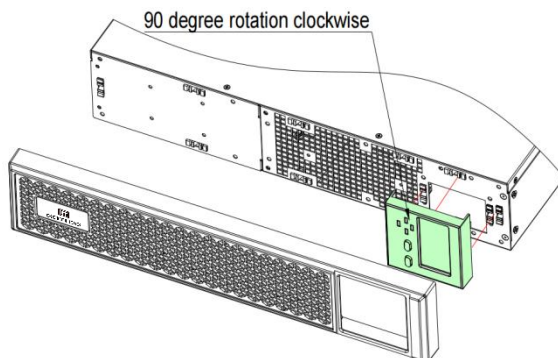

Fig.5-3 Rotating the operation and display panel
2. Pull the operation and display panel gently, rotate it 90 degrees clockwise and snap it back into position, as shown in Fig.5-3